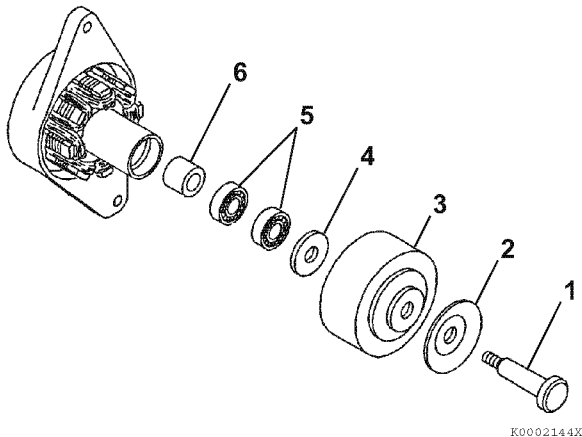

Figure 12-25
3. Remove the through bolt (1, **Figure 12-25**), pulley half (2, **Figure 12-25**), flywheel (3, **Figure 12-25**), flat washer (4, **Figure 12-25**), bearings (5, **Figure 12-25**), and spacer (6, **Figure 12-25**).